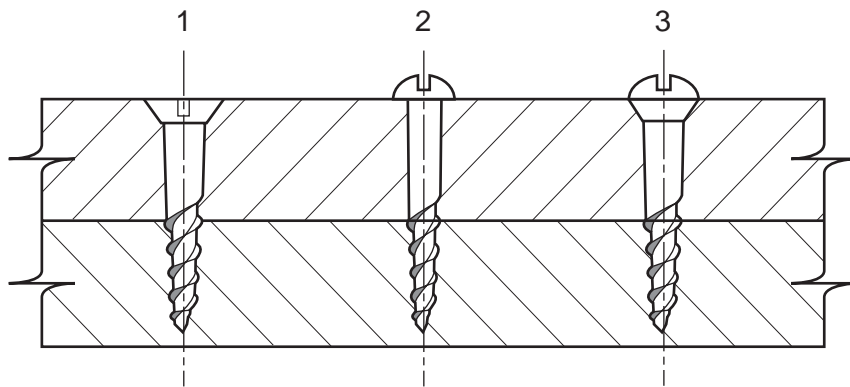

Fig. 6
- 8 Name the fixings shown in Fig. 6.